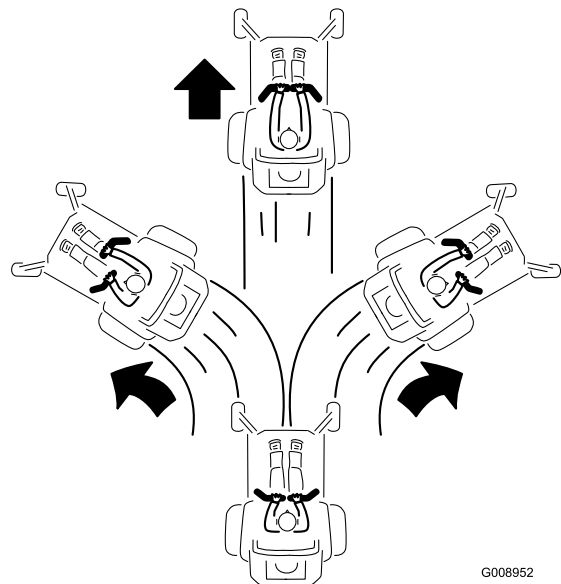

Figure 19
- To go forward, slowly push the motion-control levers forward (Figure 19).